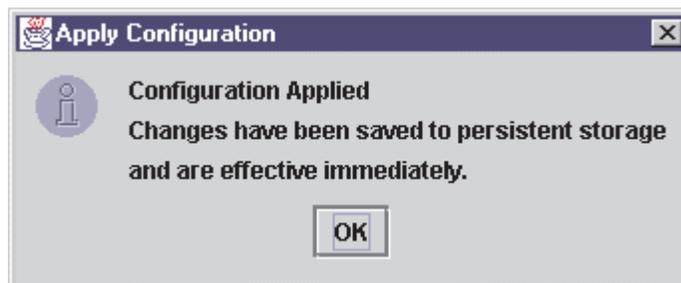

Figure 36. Apply Configuration message
- Click **Apply** to apply the new configuration. The new configuration is saved to the persistent configuration file; it will be used the next time the system is restarted. The new configuration remains in memory and is displayed after the apply operation completes. If configuration is successful, the following message is displayed (see Figure 36). Click **OK**.